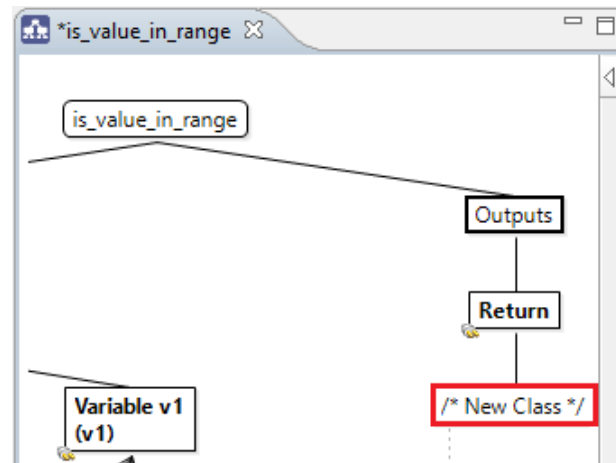

Figure 5.58: Modify class elements
- Double-click on the red marked class in figure 5.58 or press F2 after selecting the figure.